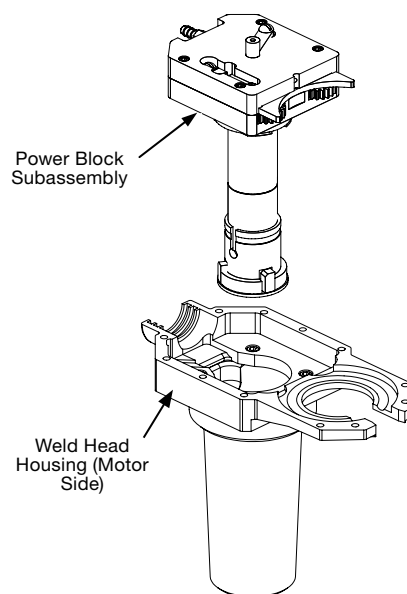

Figure 30 Removing the Power Block Assembly
8. Carefully lift the power block subassembly out of the motor side of the weld head housing. See Figure 30.